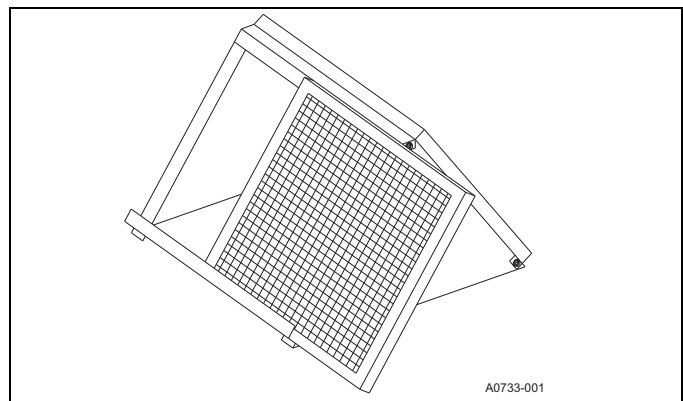

FIGURE 5: Mobile Home Filter Frame
In manufactured (mobile) home downflow furnaces and modular home downflow furnaces where a return duct system is required by local, state, or regional codes, the filters are located on the top of the furnace in an external filter rack inside the return air plenum. See Figure 5.
2. Filters are installed in the return air plenum above the blower assembly and are located in a V frame assembly that supports the filters. See Figure 5.
2. Filters are installed on the top of the furnace above the blower assembly and are located in an A frame assembly that supports the filters. See Figure 5.